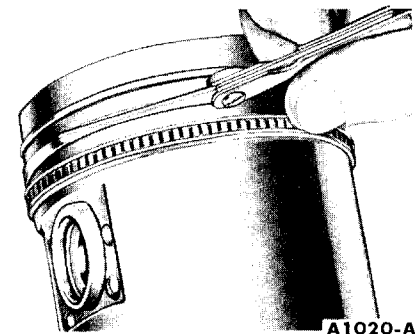

FIG. 23—Ring Side Clearance
6. Check the ring side clearance of the compression rings with a feeler gauge inserted between the ring and its lower land (Fig. 23). The gauge should slide freely around the entire ring circumference without binding. Any wear that occurs will form a step at the inner portion of the lower land. **If the lower lands have high steps, the piston should be replaced.**